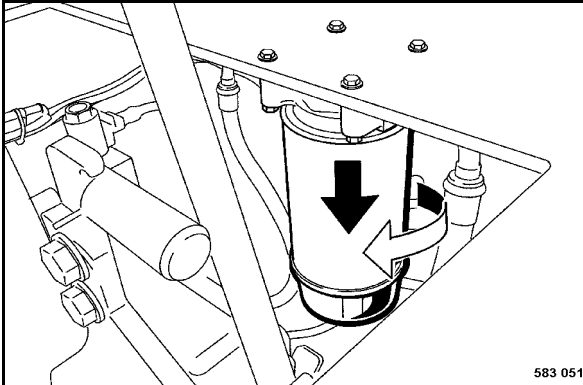

Fig. 147
- Unscrew the fuel filter cartridge (Fig. 147) using an appropriate filter wrench.